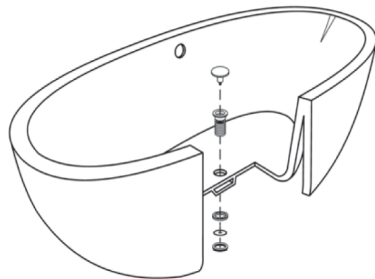

figure 10
9. Attach the Drain Body Nut on the Drain Body and tighten until the Nut and Washer have created a seal with the bottom of the bathtub. **DO NOT OVERTIGHTEN** (figure 10).